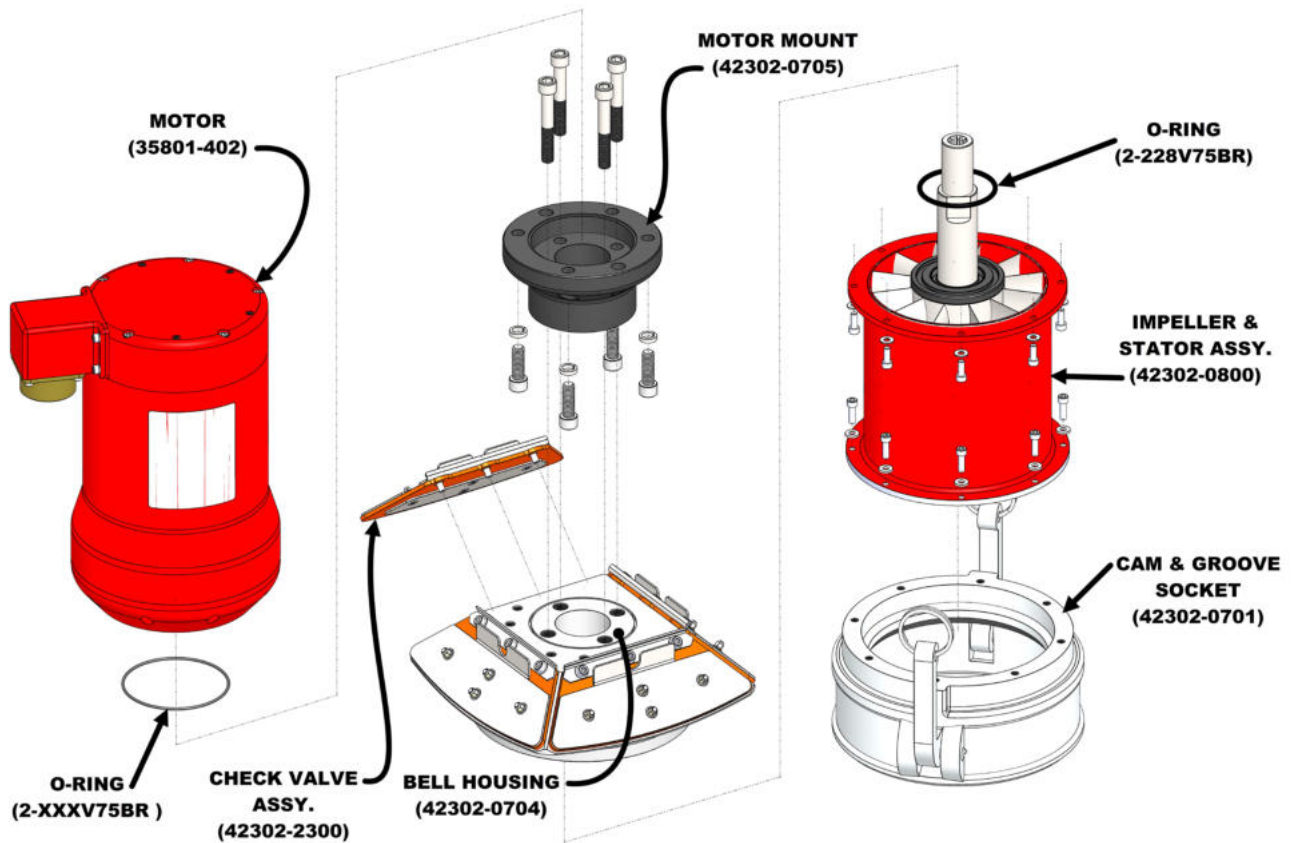
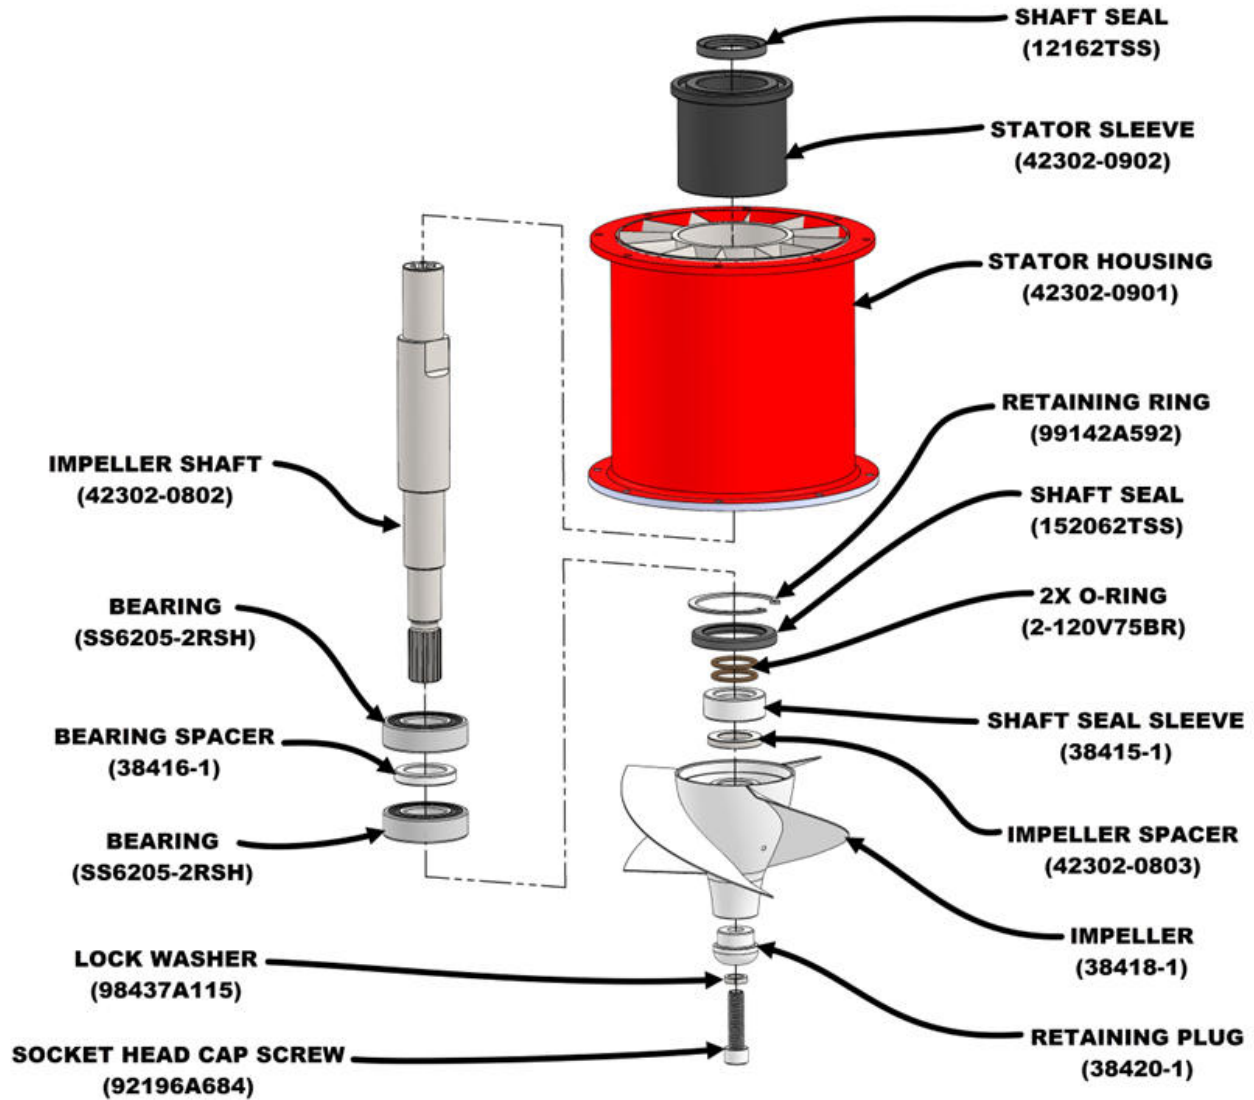

Figure 29: Bucket Refill Pump Disassembly (Motor Guard hidden for clarity)
Figure 30: Impeller and Stator Assembly
1. Motor Removal (see Figure 29)
2. Pump & Stator Disassembly (see Figure 29 and Figure 30)